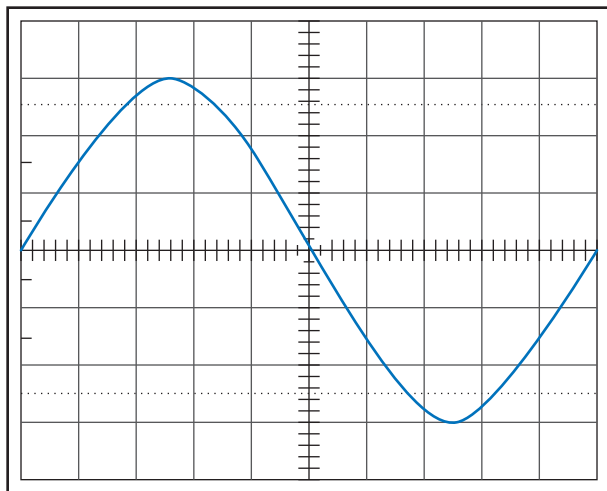

Figure 26-29 Vertical: 2 mV/div; horizontal: 2 ms/div.
26.2 What is the rms value of the sine wave shown in Fig. 26-29? Its frequency?